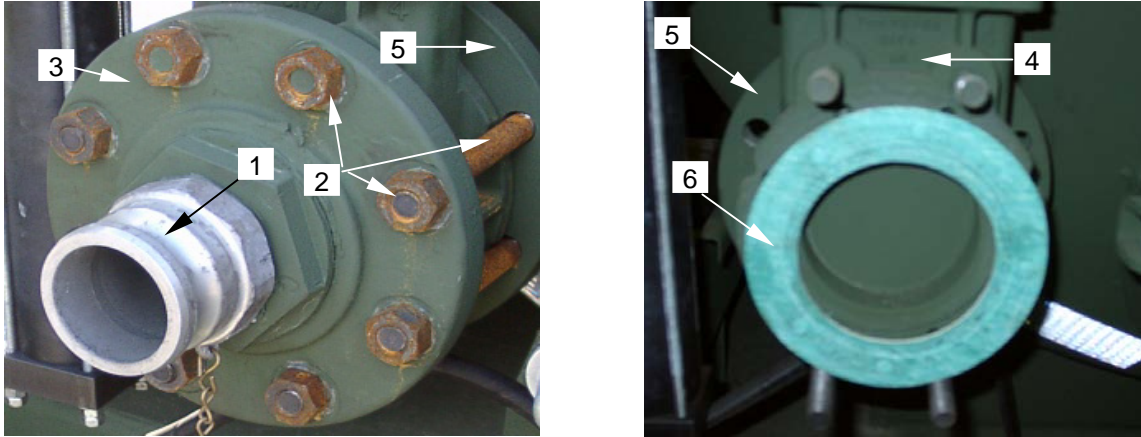

Figure 3. Removing Dust Cap and Front Flange/Gasket
4. Remove dust cap from intake valve (**figure 3, item 1**).
5. Remove hex nuts and bolts (**figure 3, item 2**) securing front flange (**figure 3, item 3**) to intake valve (**figure 3, item 4**) and rear flange (**figure 3, item 5**).
6. Remove front flange (**figure 3, item 3**) from intake valve (**figure 3, item 4**).
7. Remove 4-inch gasket (**figure 3, item 6**) and discard.